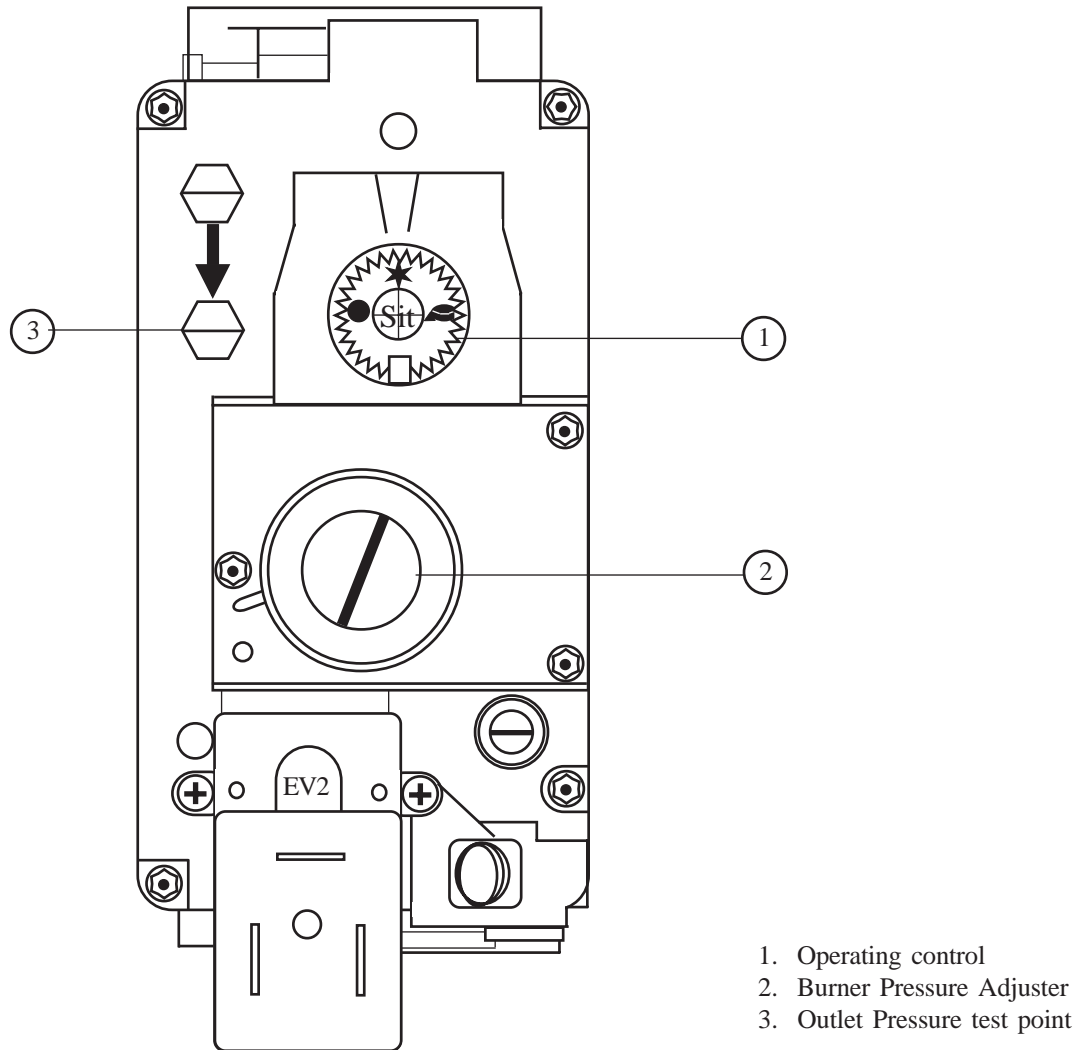

Fig. 4
- 6.3.2 On the Multifunctional control, remove the Outlet Pressure test point cover, and fit a pressure test gauge (refer Fig. 4).
- 6.3.4 Referring to Fig. 4, partially depress the OPERATING CONTROL and set the control $\frac{1}{4}$ turn anti-clockwise to the 'SPARK' symbol. Press and hold the OPERATING CONTROL, and whilst observing the Pilot Burner, repeatedly press the Piezo igniter button until the Pilot burner ignites.
6.4.1 Referring to Table 2 and Fig. 4 below, ensure that the pressure test gauge indicates the correct burner pressure, resetting if required as follows: